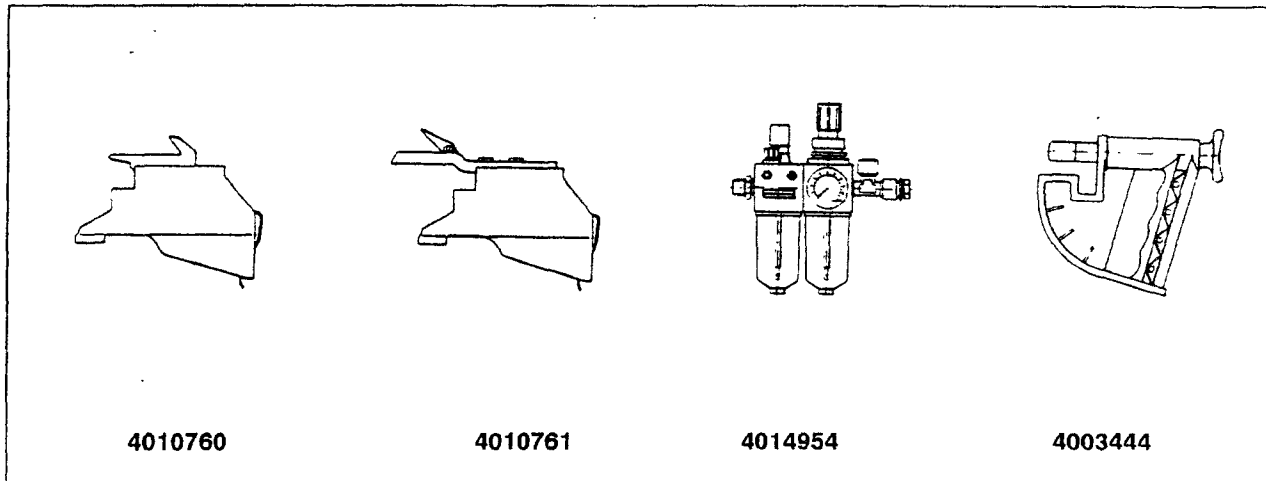

Fig.5
THE WASHERS #12, #13 (Fig.5) MUST BE PROPERLY IN PLACE.
G. Check the swing arm #20. If it is too tight, just release nut #10 (Fig.5), release the screw slightly #15 and tighten the nut #10 again. Repeat the check.